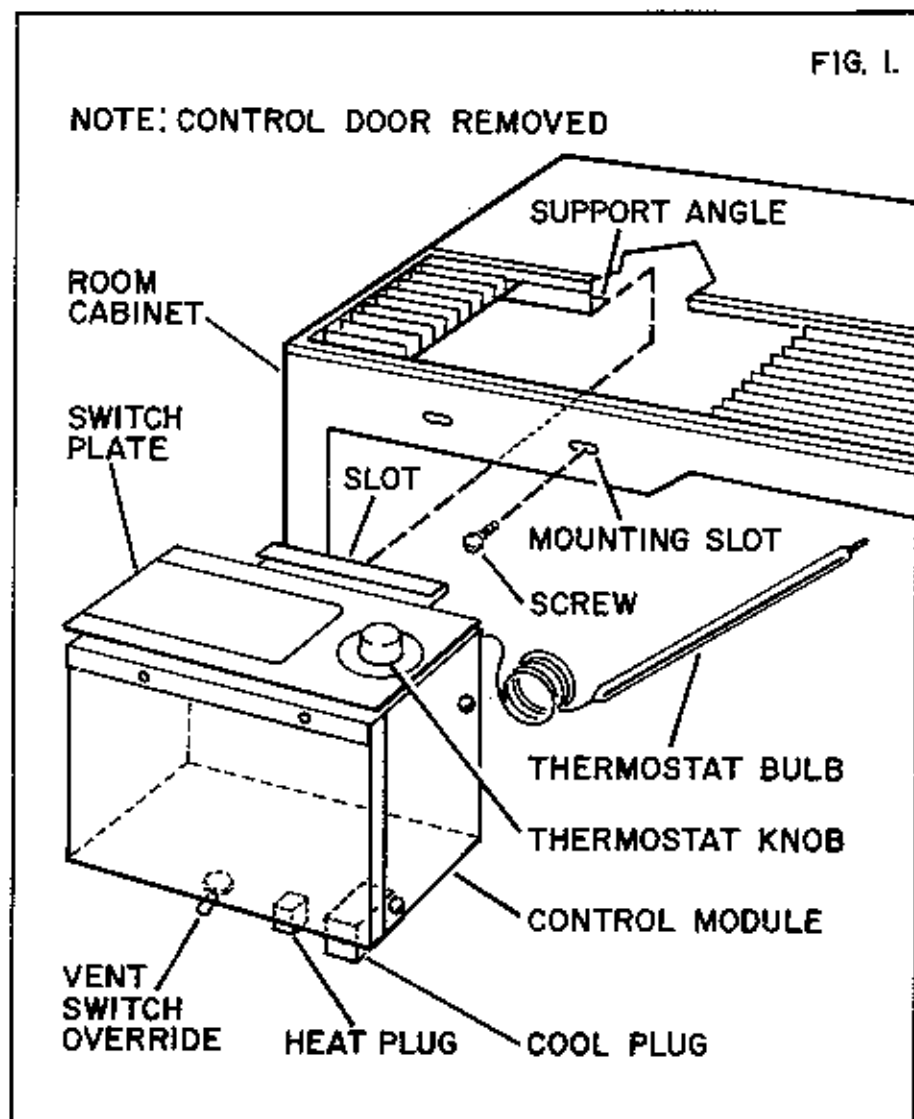

FIG. 1.
**Step 1.** Remove and save two (2) mounting screws from top front of control module. Fit aluminum switch plate over push buttons and thermostat shaft. Press thermostat knob into thermostat shaft.
**Step 2.** Hook slot at the top rear of control module over the support angle in the room cabinet. Swing module upward and forward until mounting holes in module align with mounting slots in the front flange of room cabinet. (See Fig. 1).
**Step 3.** Re-install two (2) mounting screws and tighten securely. (See Fig. 1).